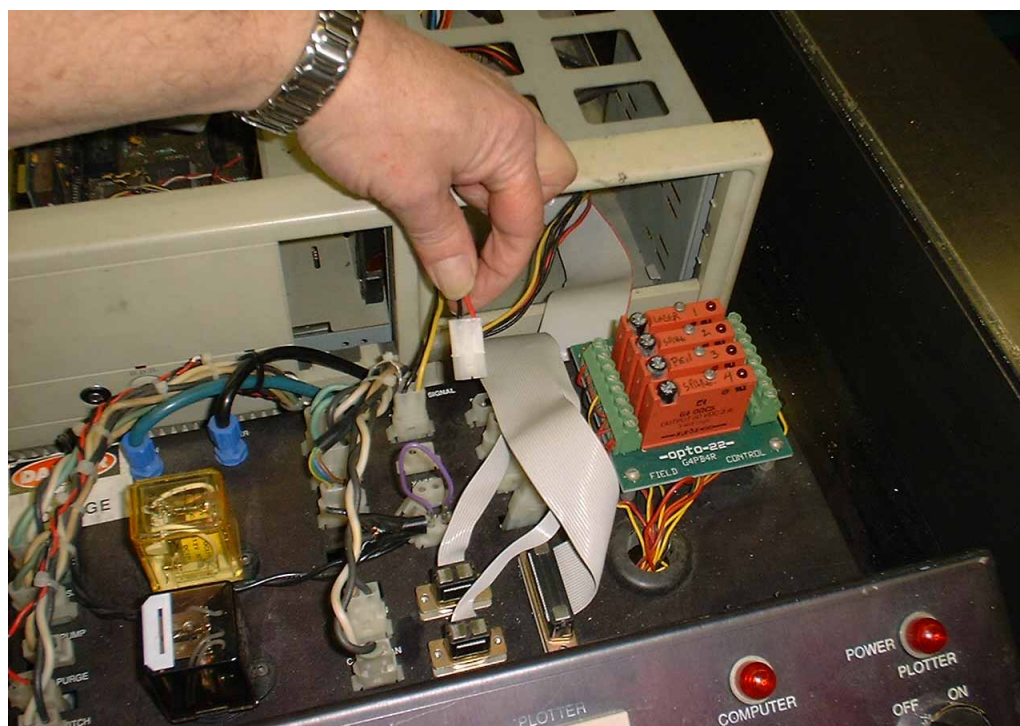

Figure 3: 5 & 12 volt Cable.
- b. Unplug 5 & 12 volts cable from top of control panel (see figure 3).